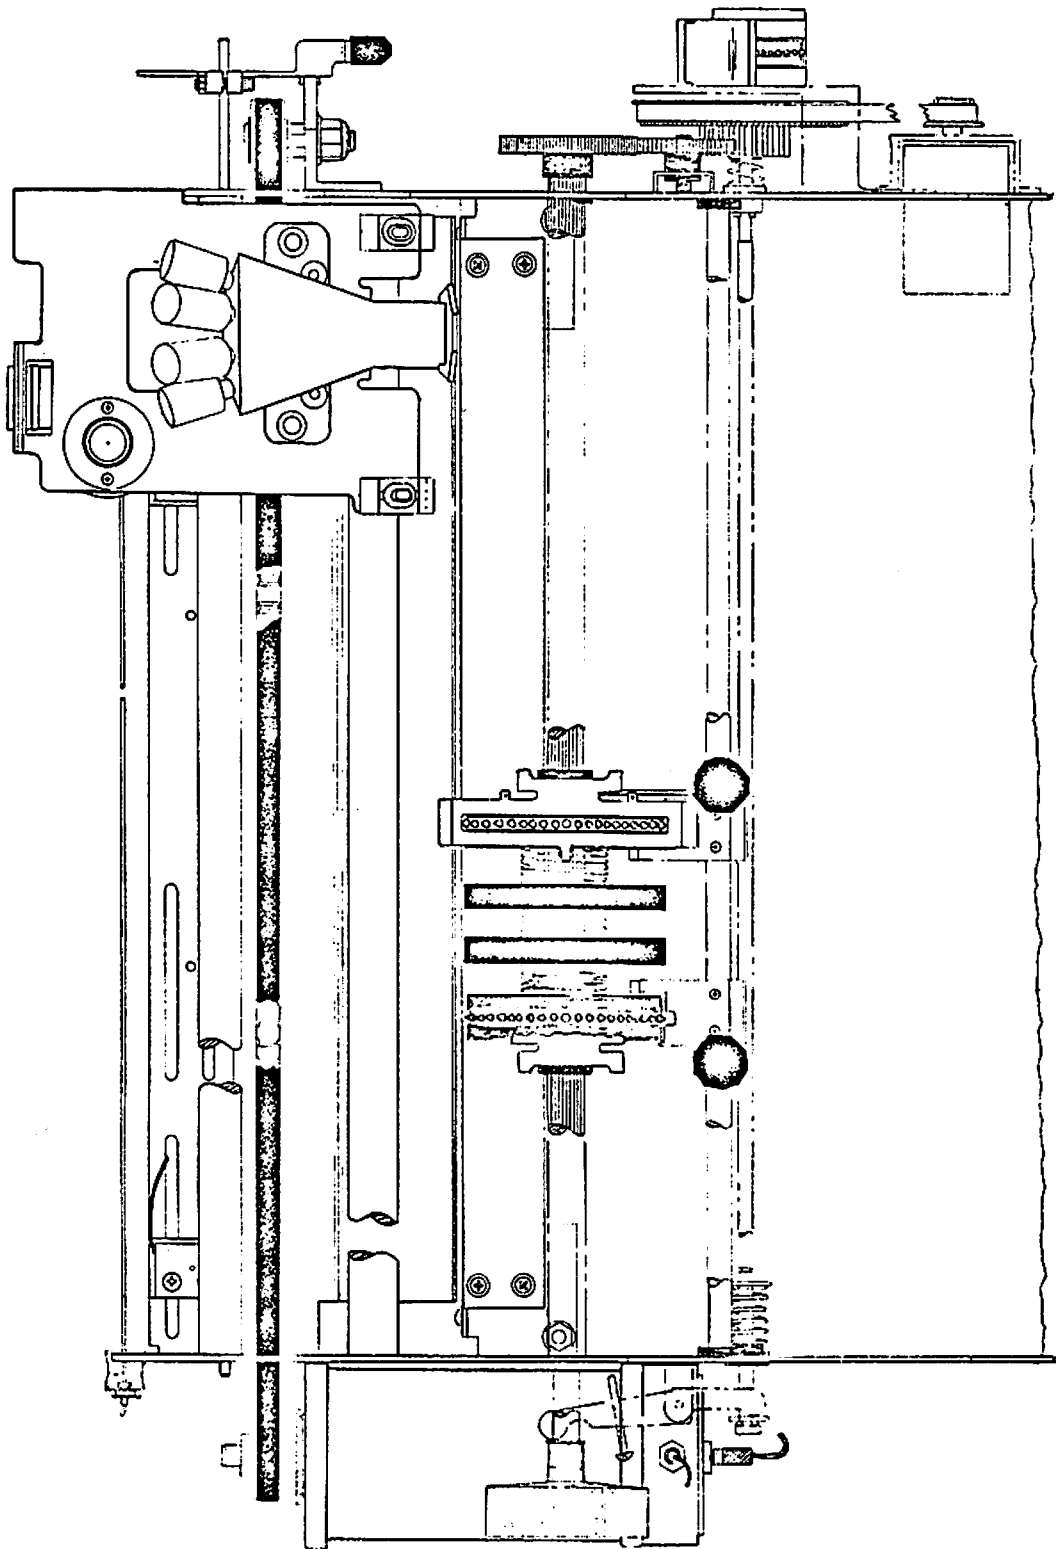

FIGURE 1-1 MODEL 61 PRINTER
1.2 DESCRIPTION (SEE FIGURE 1-1)